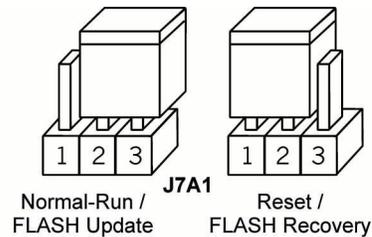

Figure 6. Jumper Positions for FLASH Update and Recovery
- f. On jumper block J7A1 move the jumper from position 2-3 to position 1-2 (see Figure 6). Re-install the adapter in the PCI slot in which it was previously installed.